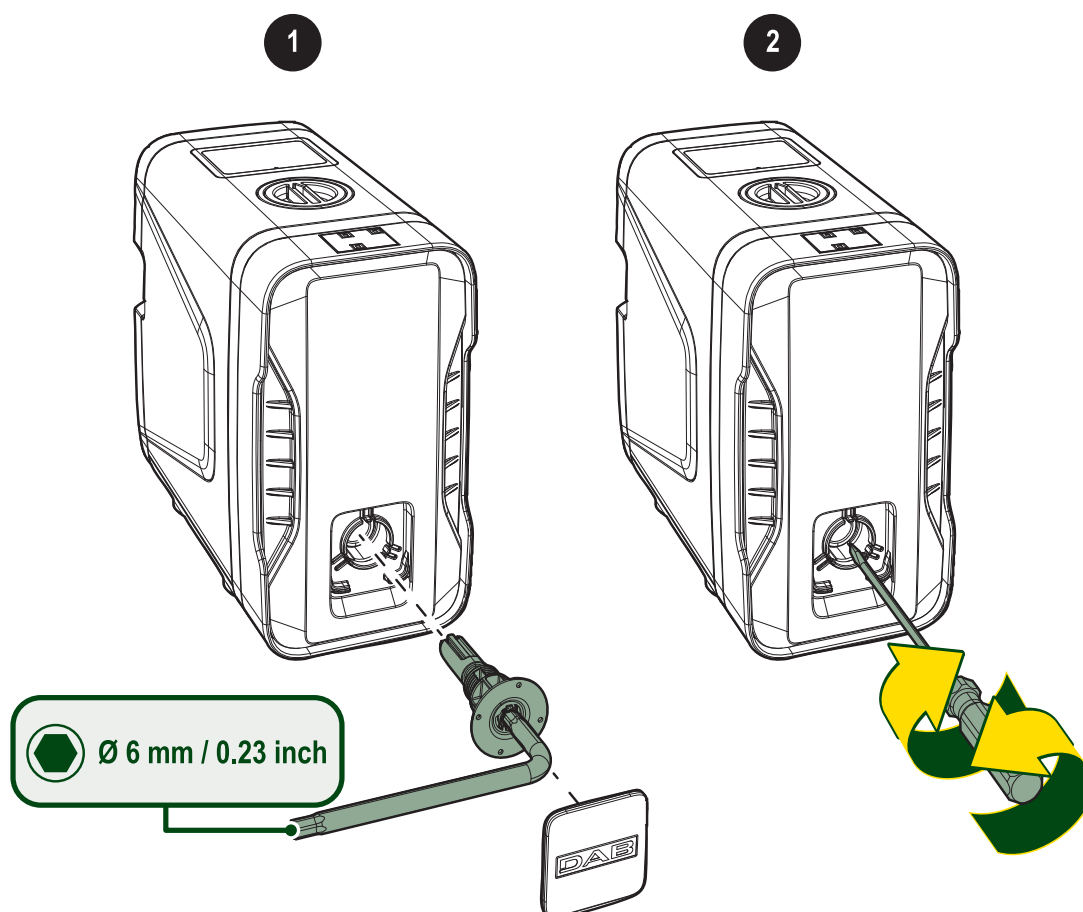

Fig. 22 Access to motor shaft
- using the key accessory, remove the cap (see **Fig. 22 Cleaning non-return valve**);